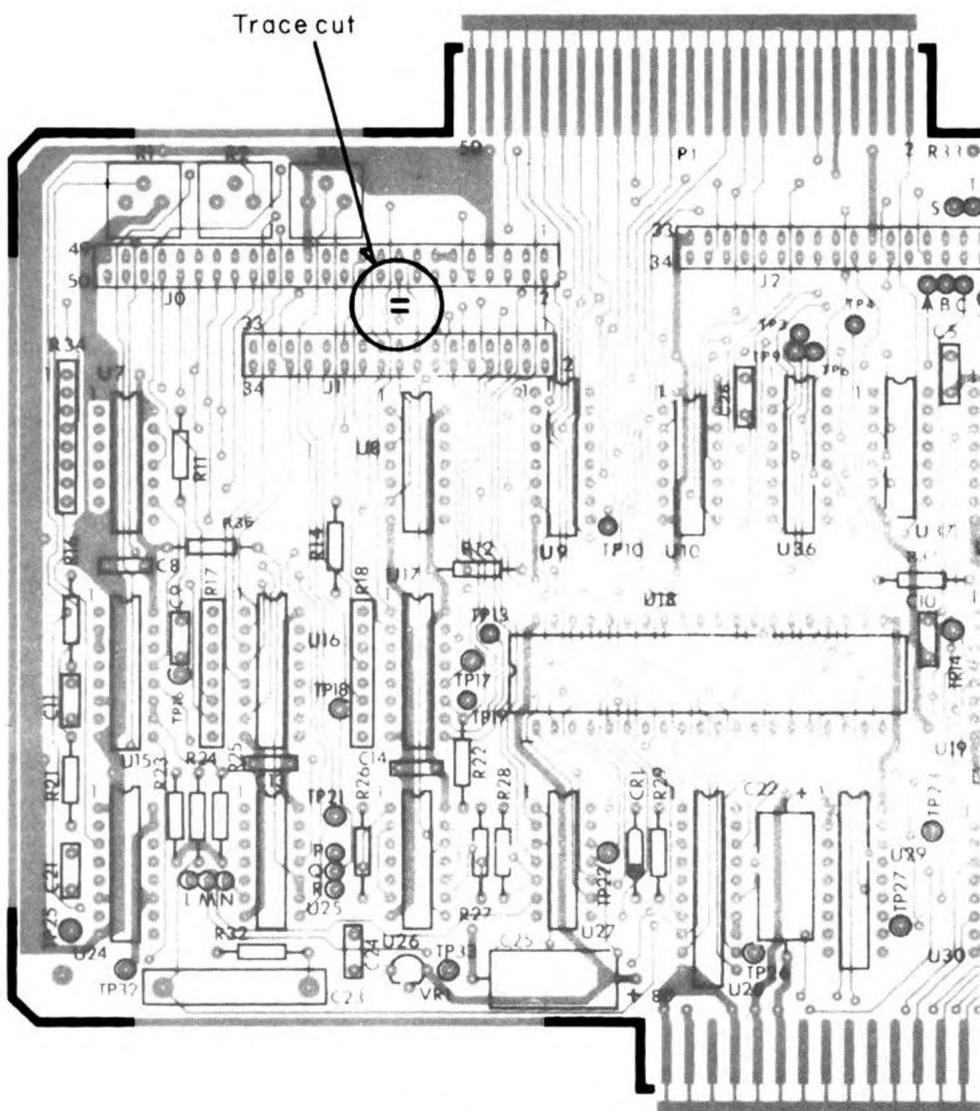

Figure 2
1. On the component side, cut the trace that goes to pin 18 of J0 (the 50 position pin header connector) RIGHT AT the connector so that the feedthru can still be used on the reverse side to go to the external head load signal (Refer to Figure 2).